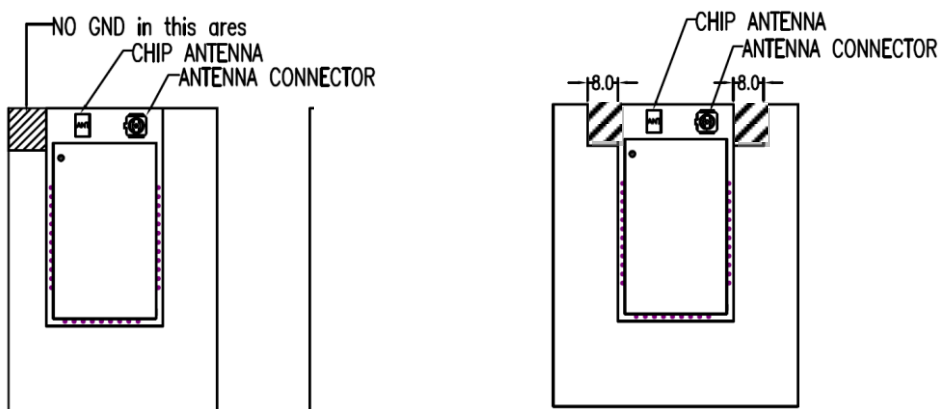

Figure 4: BT730-SA placement in the edge (not corner) of host PCB (with modified antenna keep-out).
- The antenna-keep-out defined in PCB Land Pattern and Antenna Keep-out area for BT730-SA applies when the BT730-SA is placed in the corner of the host PCB. When BT730-SA cannot be placed as such, it must be placed on the edge of the host PCB and a modified antenna keep out must be observed. This antenna keep-out modification is shown in Figure 4 (antenna keep-out is extended by 8 mm on both sides).